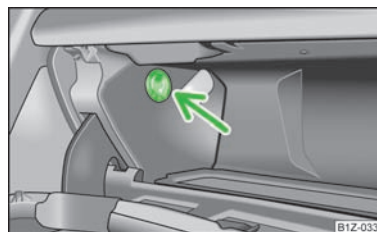

Fig. 70
- Use the rotary switch » Fig. 70 to open/close the air supply.